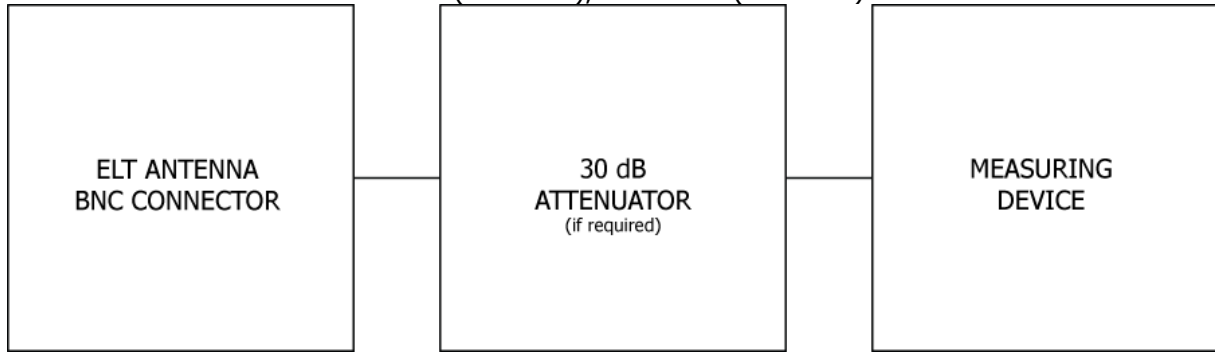

Figure 9 Performance Tests Equipment Setup
- 3) Ensure that adequate attenuation rated for 406 MHz is installed between the ELT antenna output and the measurement equipment to prevent damaging input circuitry, if required. At a minimum, the attenuator should be rated at 30 dB, and 5 watts for a 1/2-second duration as shown in Figure 9.